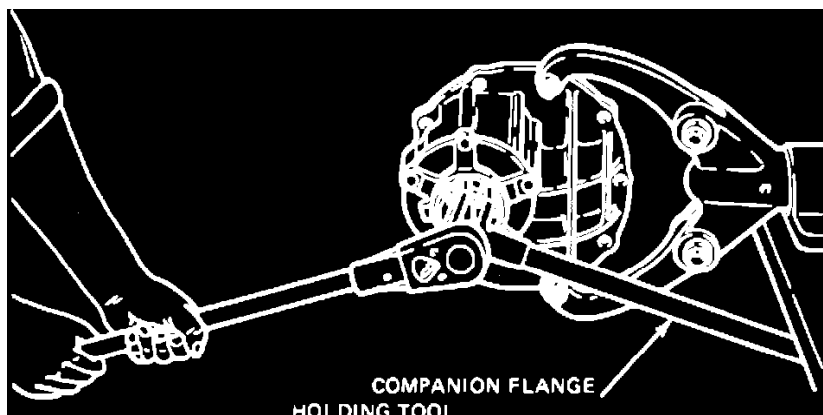

Fig. 3 Removing Pinion Shaft Nut
1. Remove drive pinion shaft nut, **Fig. 3**.